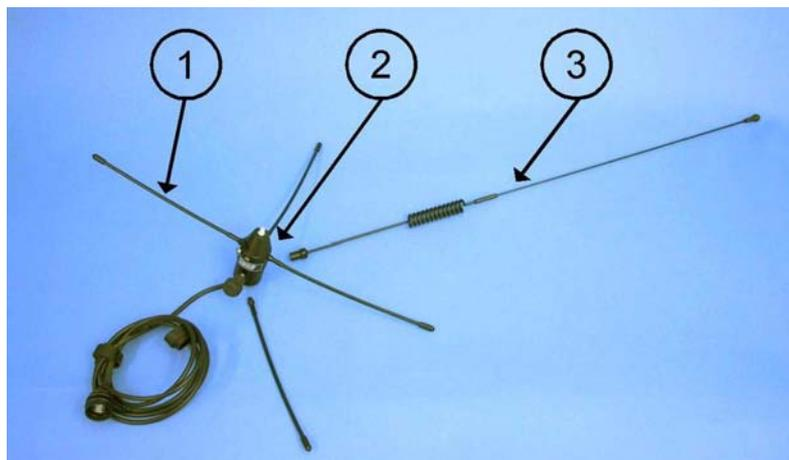

Figure 40 UHF Antenna Assembly
- b. Insert the four ground plane elements (number 1 in Figure 40 on page 51) and the radiator (3) to the antenna base (2) by screwing them clockwise.